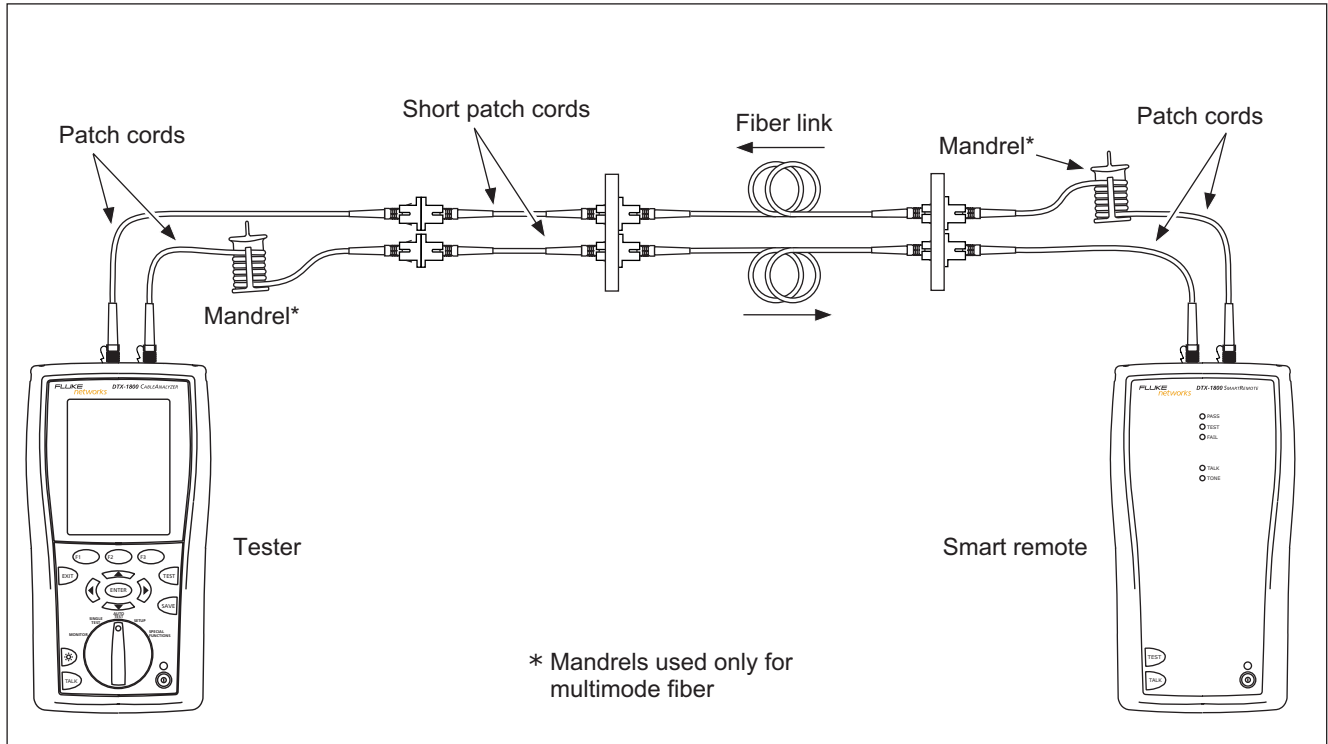

Figure 5-8. Smart Remote Mode Test Connections (Modified Method B)
- 4** Connect the tester to the cabling. Figure 5-8 shows test connections for Method B.